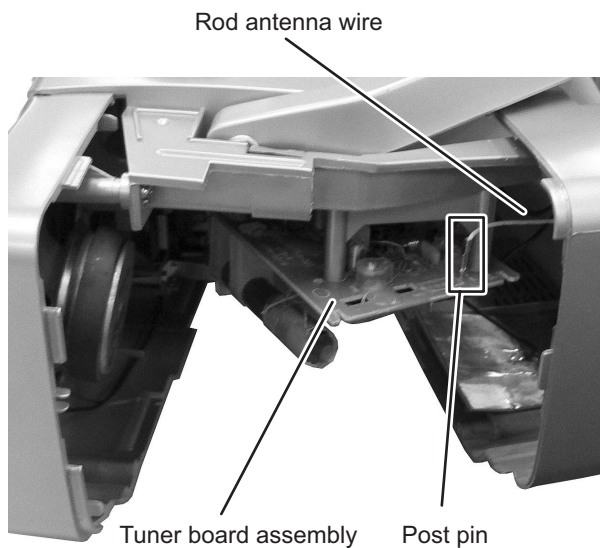

Fig.2
- (2) Disconnect the Rod antenna wire from post pin of the Tuner board assembly. (See Fig.2)